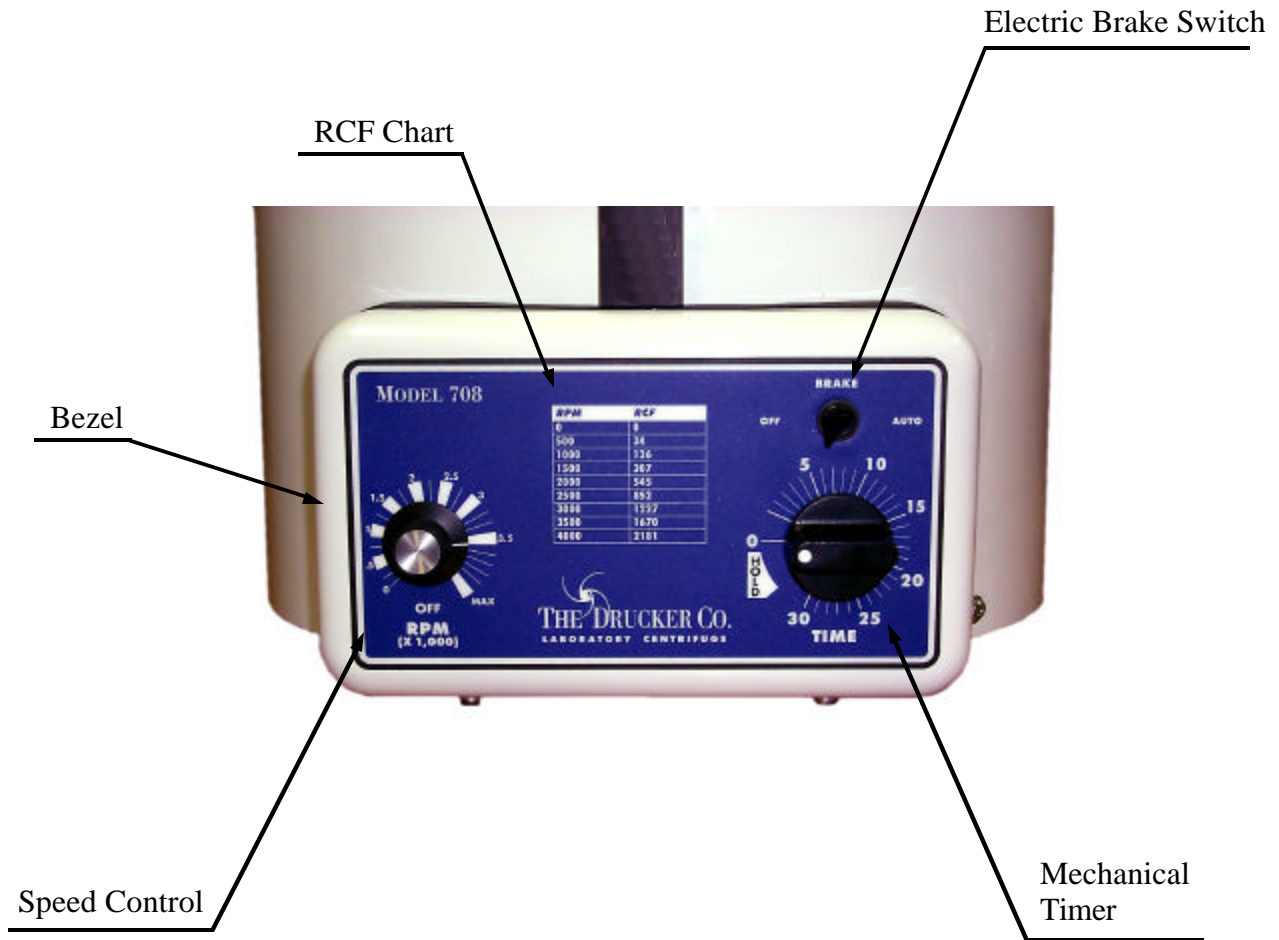

Figure 2A
4.3 Power On Safety Check (see Figure 2A):
- 1 Set the Brake Switch "On", the Speed Control for 2,000 RPM and the timer to (5) minutes.
- 4 Let the time expire. If the timing cycle is correct and the centrifuge operates properly, insert the (20) test tube shields in the rotor. Repeat steps 4.3.1 to 4.3.3
4.4 Electric Brake Check (see Figure 2A):